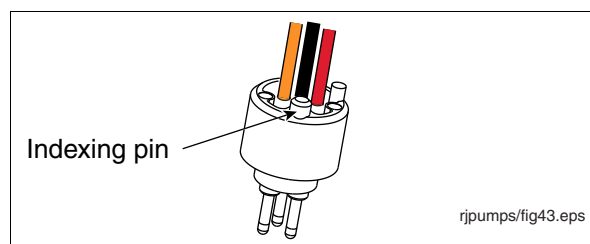

Figure 37. Male Connector's Indexing Pin
10. Notice the small indexing pin on the back of the male connector (see Figure 37).